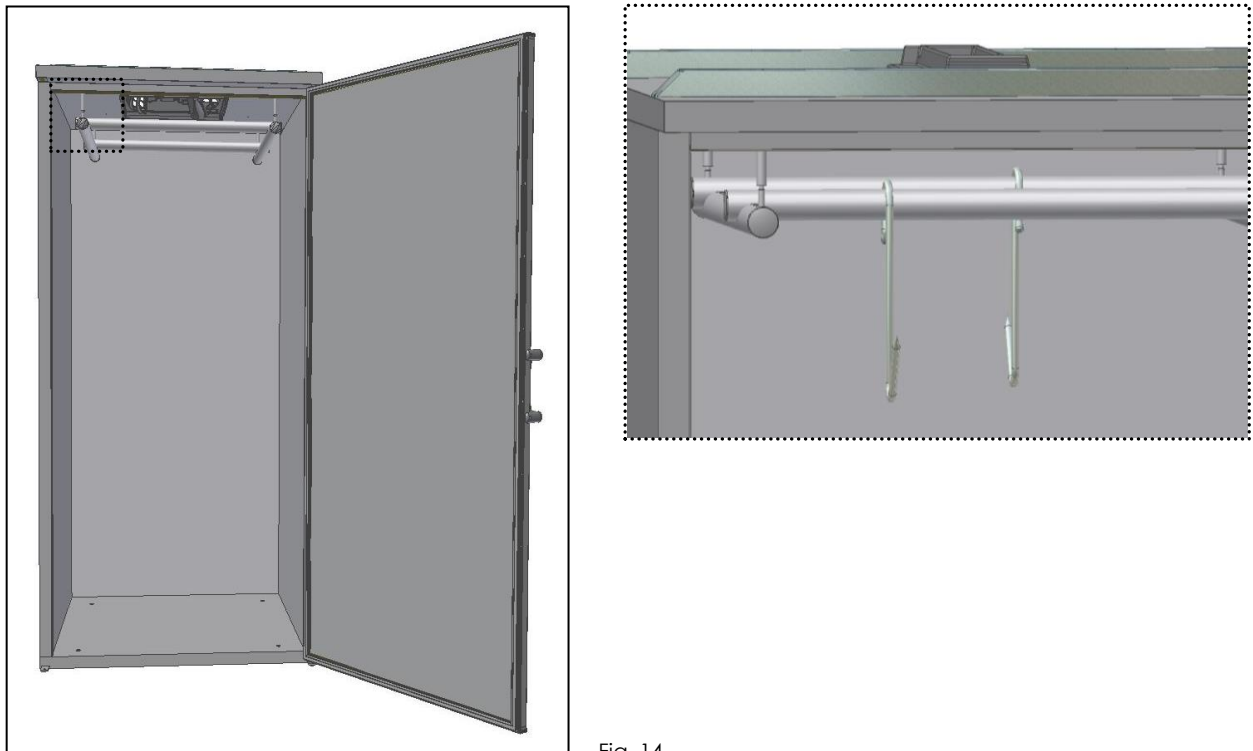

Fig. 14
- Fix the **cross pipes** into the side pipes and place the hooks where you will hang the wild game (Fig. 14);